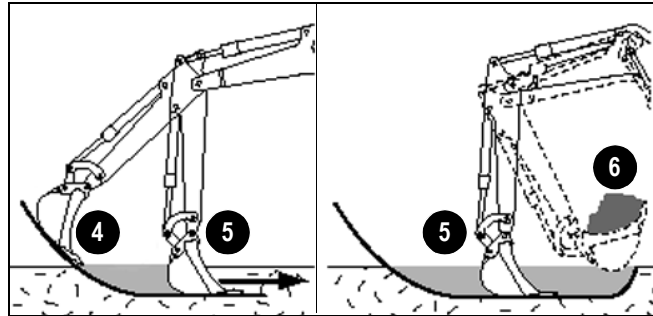

Figure 3-38 Proper Digging Technique
1. Lower the bucket into the ground (4, Figure 3-38).
2. After the bucket penetrates the ground, adjust it so the flat side of the bucket is parallel to the ground (5, Figure 3-38).
- b. Extend the dipper arm cylinder so the bucket is tilted upward (6, Figure 3-38), and...